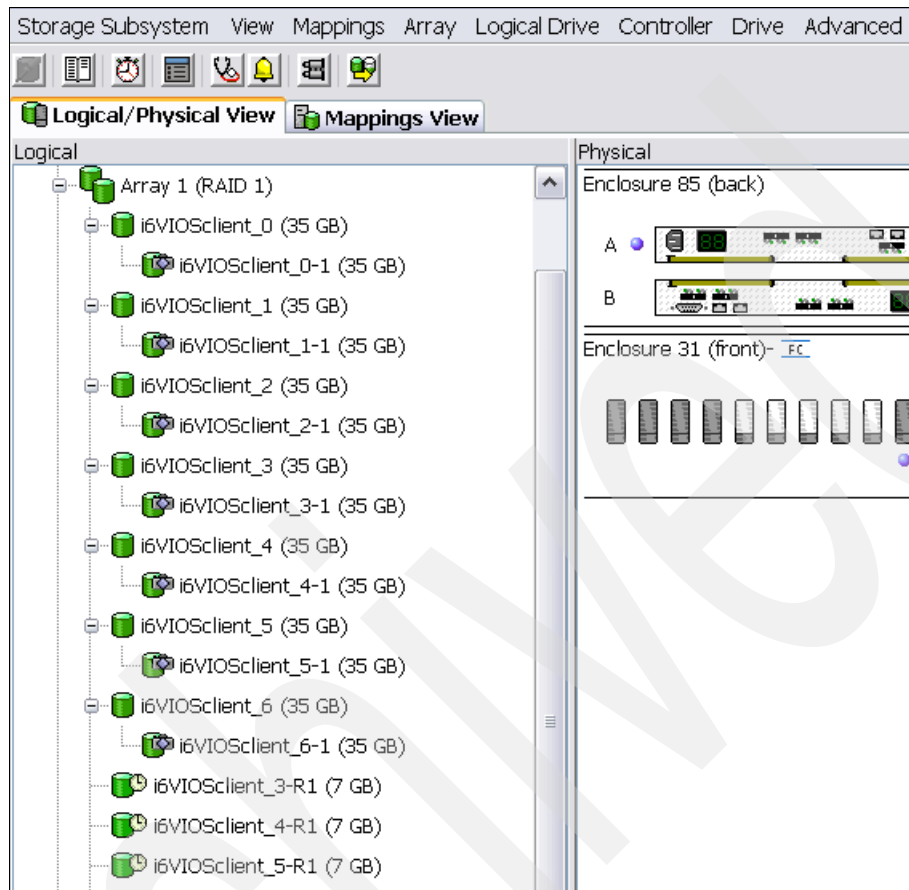

Figure 8-11 FlashCopy logical drives
12.Repeat steps 4–11 for each logical drive in the IBM i client partition. After all logical drives are created, you may observe FlashCopy logical drives and FlashCopy repository logical drives in the Logical/Physical View of the Storage System. See Figure 8-11.